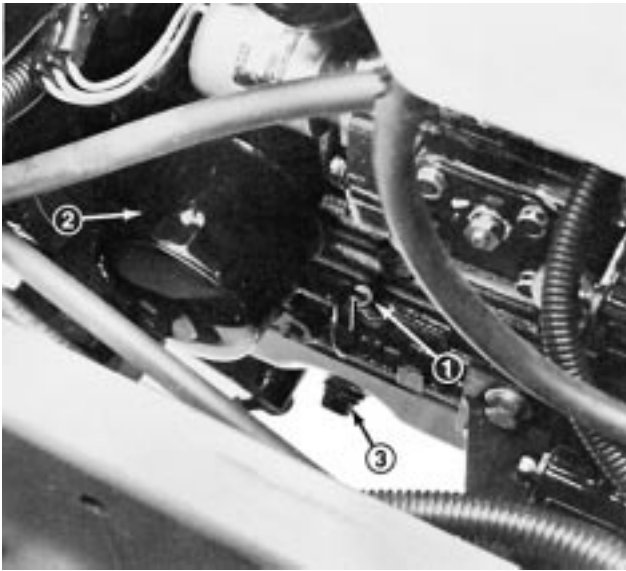

Figure 31
- Open the hood. Set drain pan under the oil pan and in line with drain plug (Fig. 31).
4. Remove oil drain plug and allow oil to flow into drain pan. Remove and replace oil filter (Fig. 31); refer to parts catalog for part number.